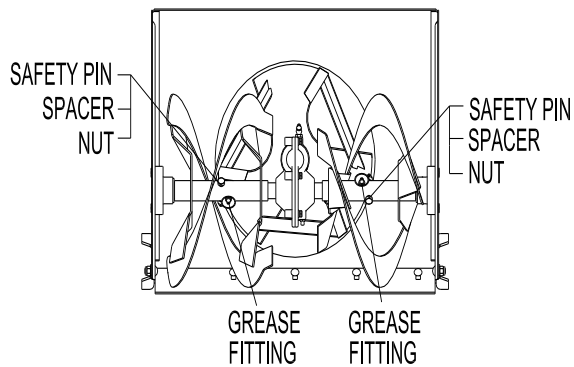

FIG 19
6.14.1 Clean out sheared safety pin. (FIG 19)